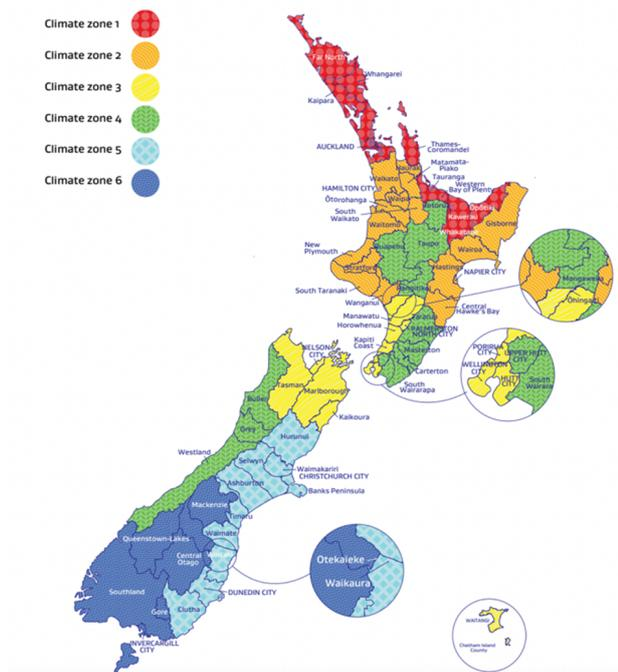

Figure 4. New Zealand is divided into six climate zones that determine how well insulated a sleepout must be.
- Six **climate zones** [Figure 4], from the warmest parts of the country to the coldest. These zones can be found in the H1 Acceptable Solutions and Verification Methods. Homes and sleepouts in colder parts of the country need higher levels of insulation and higher-performing windows to keep them warm in winter.